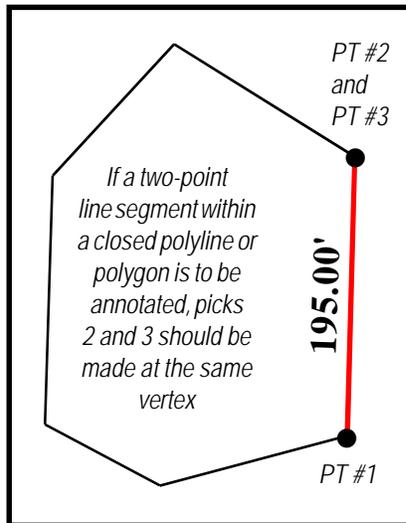

Figure 10
1. If a two-point line segment within a polyline or polygon is to be processed, the picks made to identify the second and third points, PT #2 and PT #3 in Figure 9(b), should be the same. That is to say, if the second and third picks identify the same vertex in the selected feature, the tool will assume that a two-point line segment is to be processed, see Figure 10.